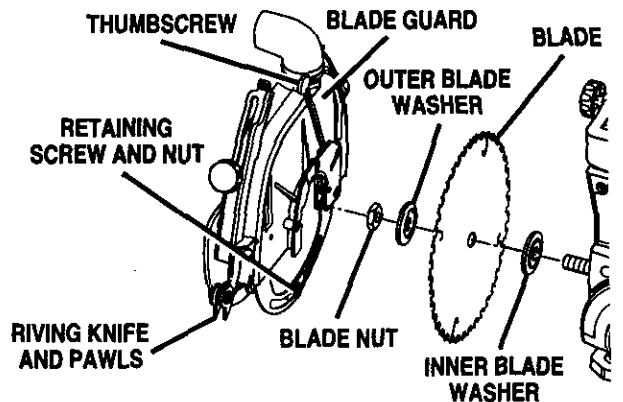

Fig. 26A
INSTALLING BLADE AND BLADE GUARD See Figures 26A and 26B.
- Collect the blade and hardware that were removed earlier. Place the inner blade washer, saw blade, outer blade washer, and blade nut on the blade arbor. See Figure 26A. **Note:** The concave side of blade washers go against the blade.
- Attach the blade guard over the blade so the riving knife and pawls face front. See Figure 26A.